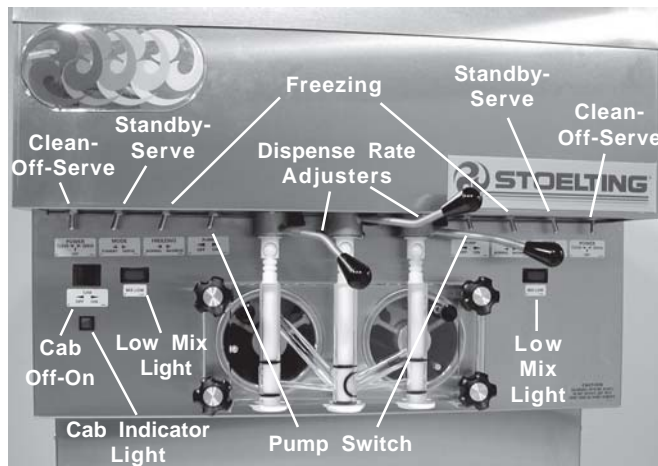

Figure 11. Operating Controls
- F. Place the CLEAN-OFF-SERVE switches in the OFF position before continuing. Figure 11.
Before operating the freezer, it is required that the operator know the function of each operating control. Refer to Figure 11 for the location of the operating controls on the freezer.